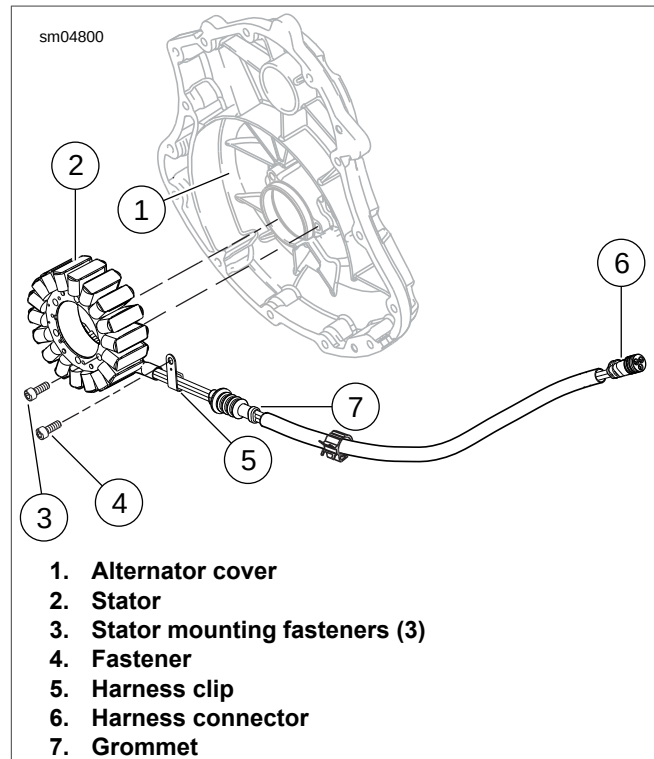
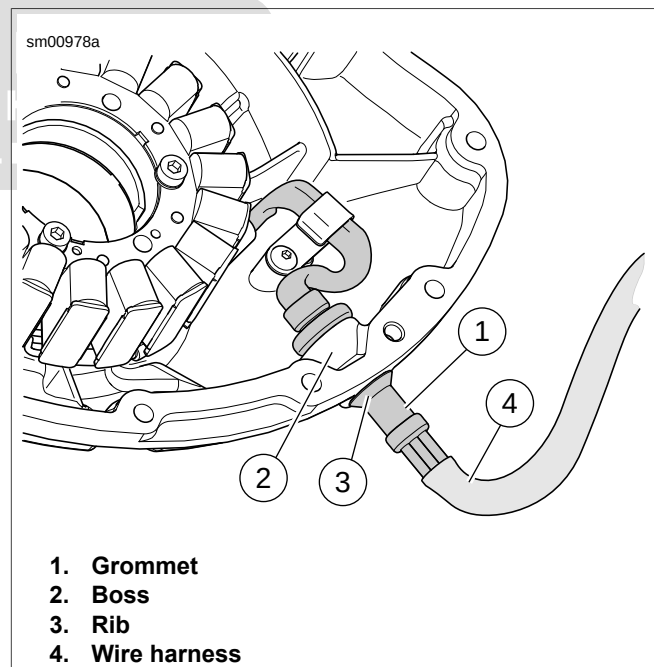

Figure 7-33. Removing Stator From Alternator Cover
Figure 7-34. Stator Wiring Harness Grommet
1. See Figure 7-33. Remove fastener (4) and wire harness clip (5) from alternator cover (1).
2. Remove stator mounting fasteners (3) and captive washers from stator (2). Remove three stator mounting fasteners (3) and pull stator straight up out of alternator cover (1). Note orientation of slot in cover stator hub and clip on stator.
3. See Figure 7-34. While pushing on grommet (1) from outside of alternator cover, rock grommet back and forth to facilitate removal. Exercise caution to avoid damaging rib (3) on grommet if stator is to be reused.
4. Draw stator wire harness (4) and socket terminals through alternator cover bore.
2. See Figure 7-34. From inside cover, feed stator wire harness (4) through boss (2) on cover wall.
3. Lubricate grommet (1) with isopropyl alcohol or glass cleaner. Grommet must be clean and free of dirt and oily residue.
5. See Figure 7-33. With stator (2) oriented to cover (1) so that wire harness exits alternator cover at approximately 3 o'clock, line up three fastener holes in stator with holes in alternator cover (1).
6. Install three stator mounting fasteners (3). Alternately tighten to 8.2-10.7 Nm (72-95 in-lbs).
7. Install harness clip (5) over wire harness into alternator cover. Secure with fastener (4). Tighten to 8.2-10.7 Nm (72-95 in-lbs).